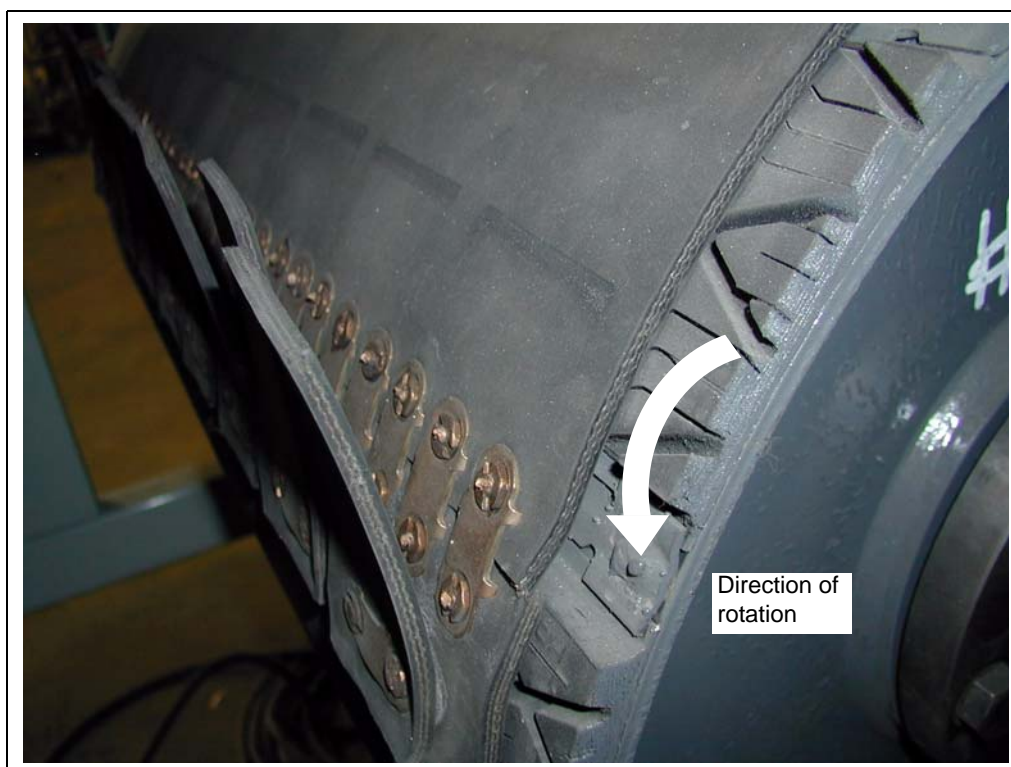

Figure 6S
13. Place flippers on belt. The flipper should be located so the tail of the flipper covers the splice. **Note direction of belt travel.** The flippers are evenly spaced across the belt with a 1/4" gap between them. There will be a larger gap between the outside flipper and the edge of the belt. *(See Figure 6S.)*